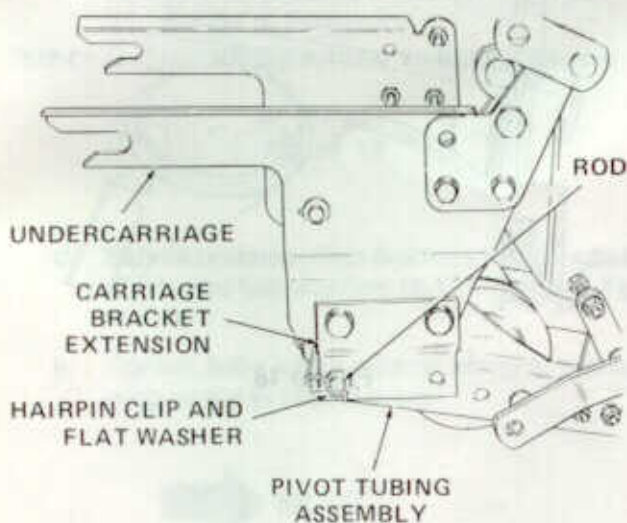

Figure 12
- d. FOR SUPER GARDEN TRACTORS ONLY, slide undercarriage over ends of square tubing and align holes in square tubing with bottom rear holes in carriage bracket extensions. Refer to Figure 12.